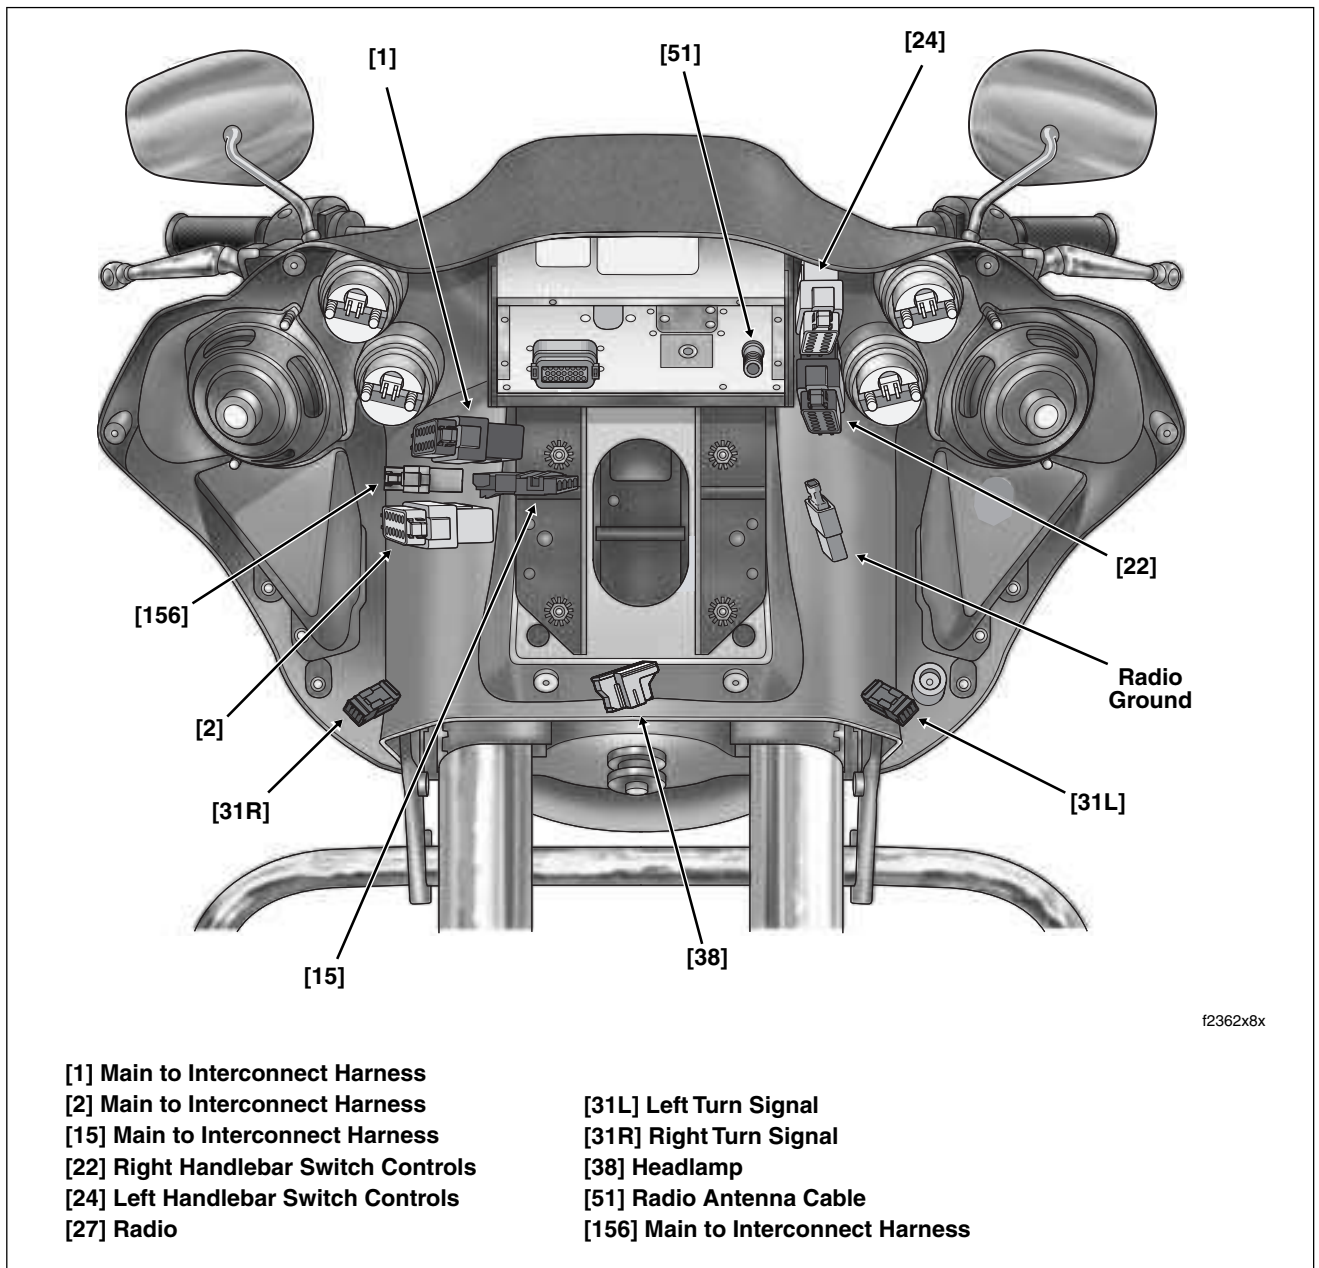

Figure 2-179. Inner Fairing Connectors (FLTR)
7. See Figure 2-179. Disconnect instrument nacelle switches from interconnect harness as follows:
2. See Figure 2-179. Connect instrument nacelle switches to interconnect harness as follows:
4. See Figure 2-179. Connect left side switch to instrument nacelle switch harness as follows:
- See Figure 2-179. Disconnect main harness from interconnect harness as follows:
- See Figure 2-179. Disconnect radio antenna cable and radio ground wire. Proceed as follows:
- See Figure 2-179. Disconnect handlebar switch controls from interconnect harness. Proceed as follows:
16. See Figure 2-179. Connect handlebar switch controls to interconnect harness. Proceed as follows:
17. See Figure 2-179. Connect main harness to interconnect harness as follows:
18. See Figure 2-179. Connect radio antenna cable and radio ground wire. Proceed as follows:
19. Orient connectors as shown in Figure 2-179. Install two **new** cable straps outboard of radio bracket hooks to secure wire bundles and conduit to convoluted tubing of interconnect harness. Cut any excess cable strap material.